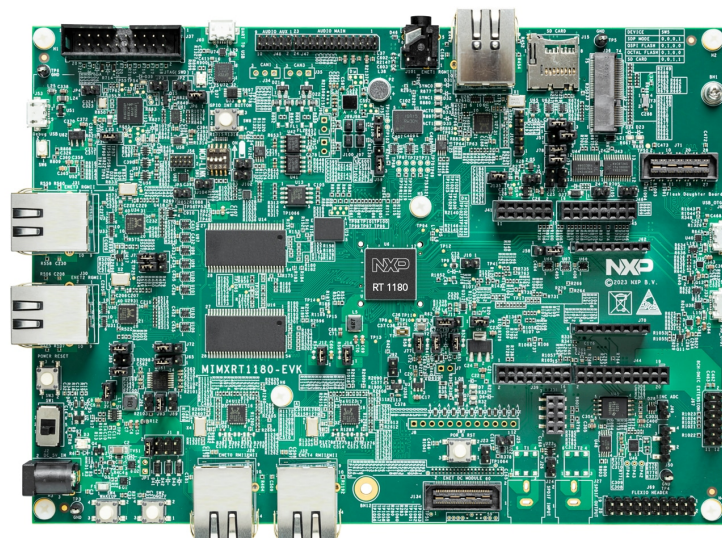

Figure 4. MIMXRT1180-EVK board
- The MIMXRT1180-EVK board is the hardware used to run NETC application and test performance, which is identified as the Device Under Test (DUT) in Figure 4.